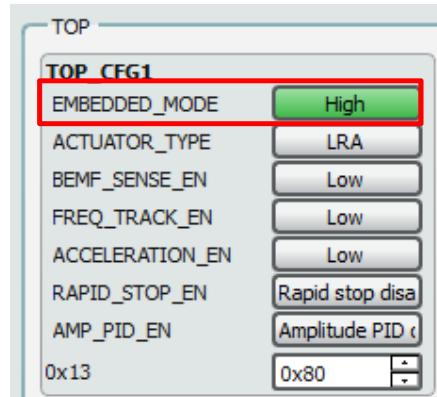

Figure 41: Embedded Mode
**Note:** In Embedded Mode operation, see Figure 41, the IRQs will self-clear when the playback ends. This is useful for systems with minimum interaction between the host and DA7280.